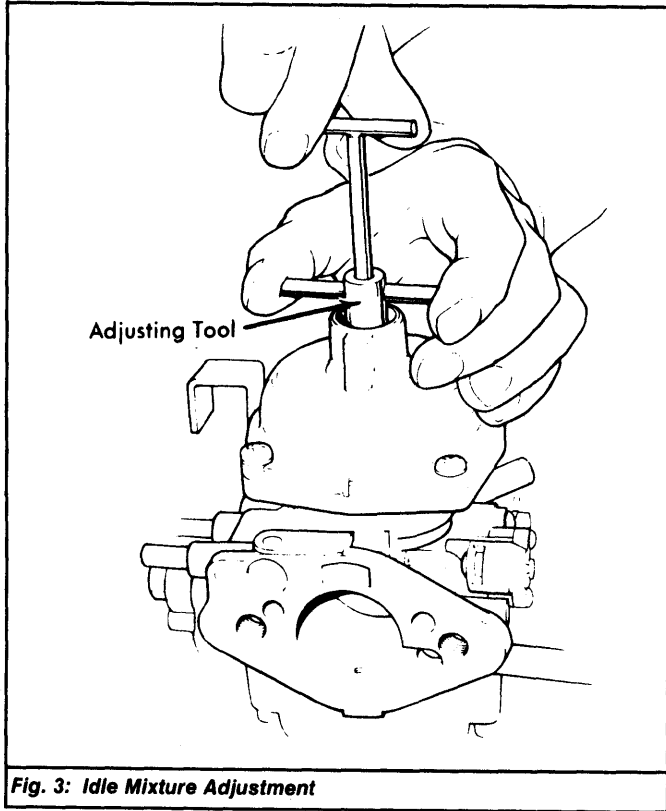

Fig. 3: Idle Mixture Adjustment
3) Connect exhaust gas analyzer to vehicle. Check CO% level. If CO% level is incorrect, remove piston damper from carburetors. See Fig. 3. Carefully insert Needle Adjuster (S 353) into damper until outer adjuster engages air valve and inner portion engages hexagon in needle.
- 4) Remove piston damper from carburetors. See Fig. 3. Carefully insert Needle Adjuster (S 353) into damper until outer adjuster engages air valve and inner portion engages hexagon in needle.